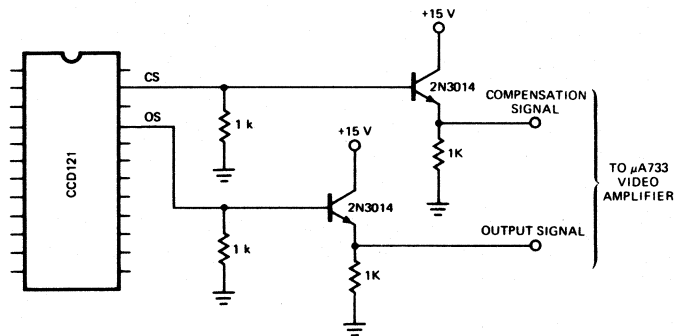

Fig. 1
11. See Fig. 1 for test load configuration.